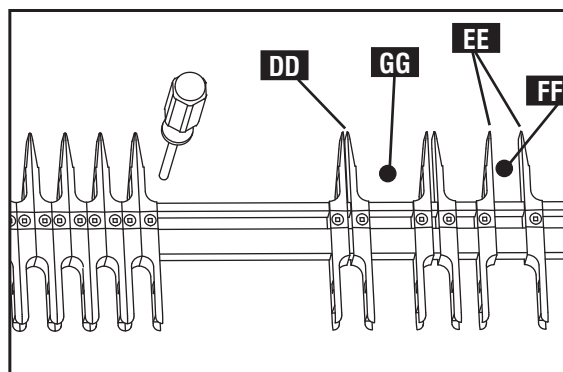

Fig. C15
While the finger pairs (DD) Fig. C15 can be placed anywhere for your variable-spaced joints, they usually move together, as shown at (DD).